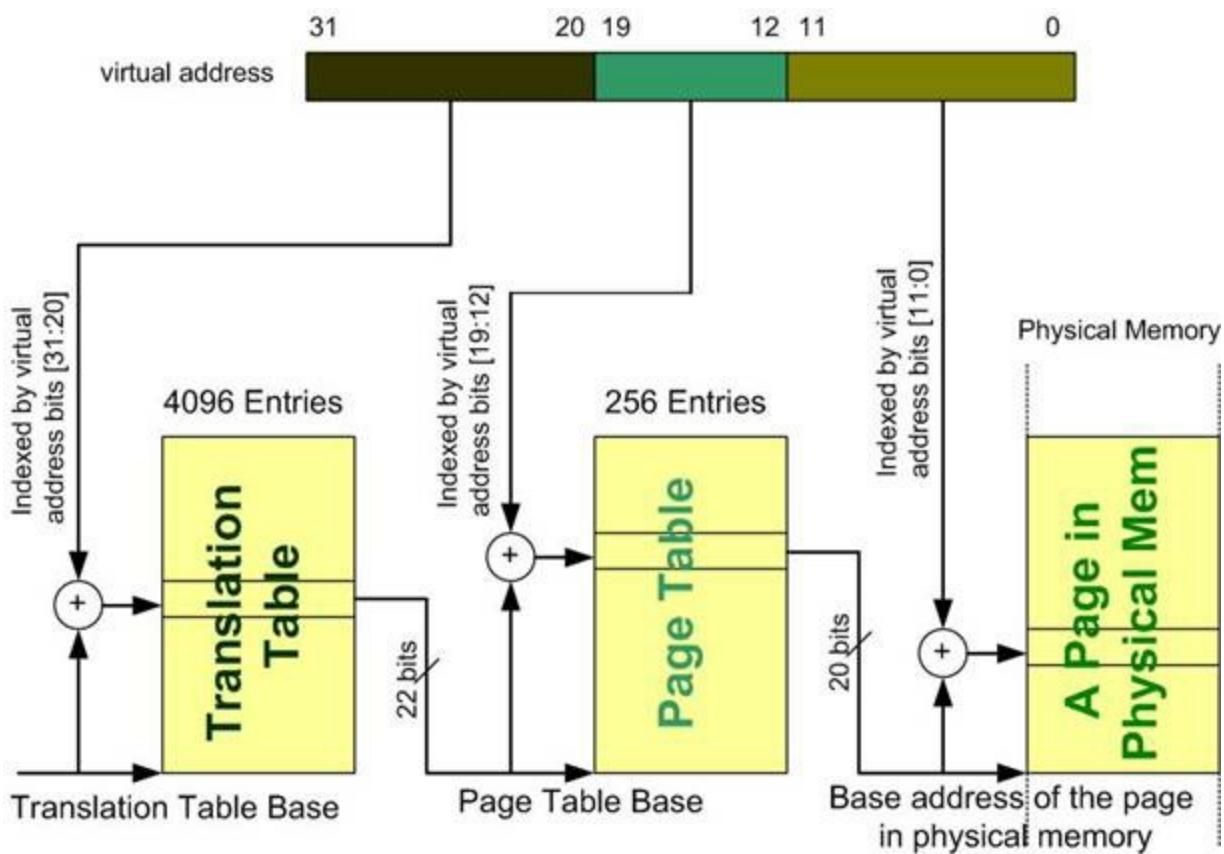

Figure 15-4: 4K Paging Mechanism in ARM
- c) The lower 12 bits of the physical address are the lower 12 bits of the virtual address (A11-A0). See Figure 15-4. In other words, only the lower 12 bits of the virtual address match the lower 12 bits of the physical location in RAM (or ROM) where data is located, and the upper 20 bits of the virtual address must go through two levels of translation tables to get the actual physical address of the beginning page where the data is held.